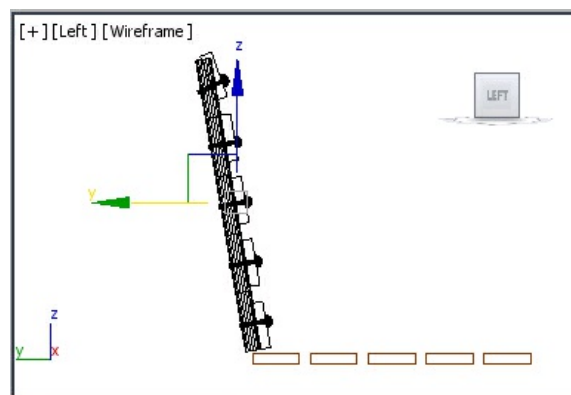

Figure 2-85 Alignment of back support in the Left viewport
3. Choose the **Select and Move** tool and align *back support* with *horizontal seat support*, as shown in Figure 2-85.